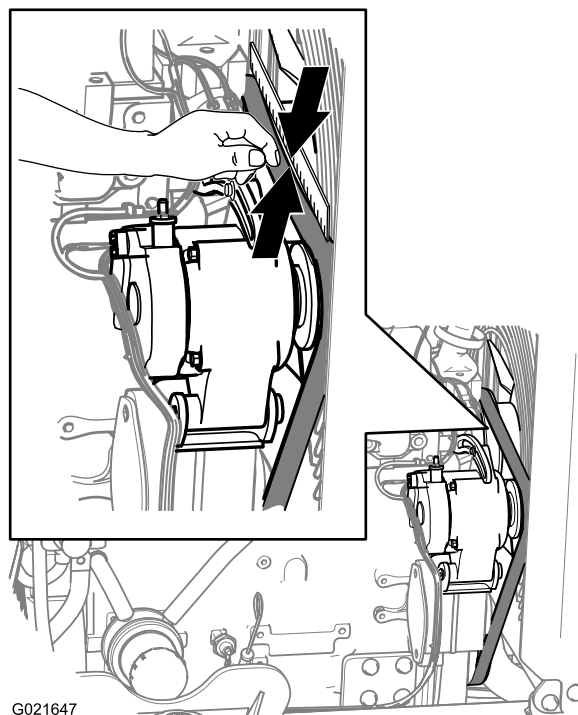

Figure 85
2. Place a straight edge over the drive belt and across the pulleys as shown in Figure 85.
3. Press the belt down at the midway point between the fan pulley and the alternator pulley as shown in Figure 85.